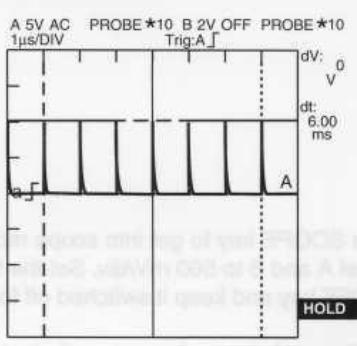

Figure 4.11 Cursor lines on marker pulses
- G Position the cursor lines with the <CURSOR 1-> and <CURSOR 2-> keys, so that they cover a distance of 6 time marker intervals. Position the markers exactly to the top of the marker pulses. See figure 4.11.